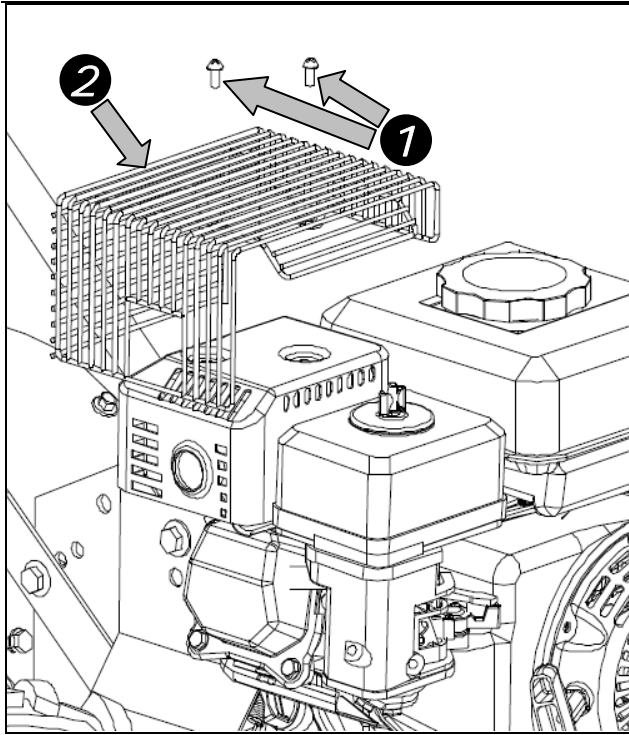

Fig.11
**STEP8 Attach the muffler protection cage. (Fig.11)**
Screw in two bolt ①(Fig.11) from top side to the muffler and fix the muffler protection cage ②(Fig.11) to the engine.